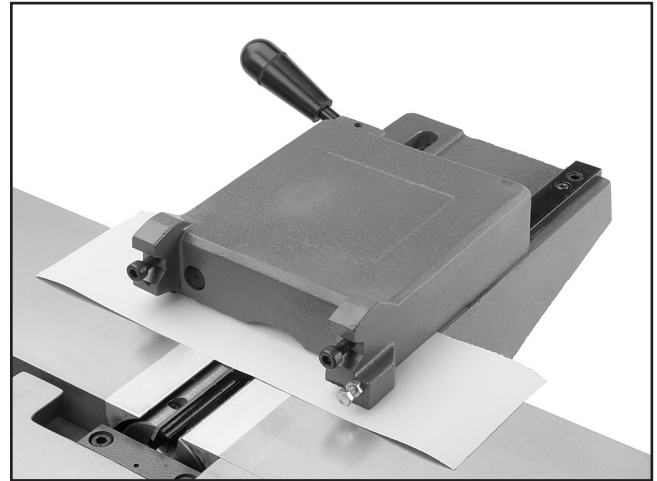

Figure 14. Carriage slide propped up on paper.
2. Place a piece of paper on the table and slide the carriage over the table top to allow it to rest on the paper and self align, as shown in **Figure 14**, then tighten the carriage mounting bolts.